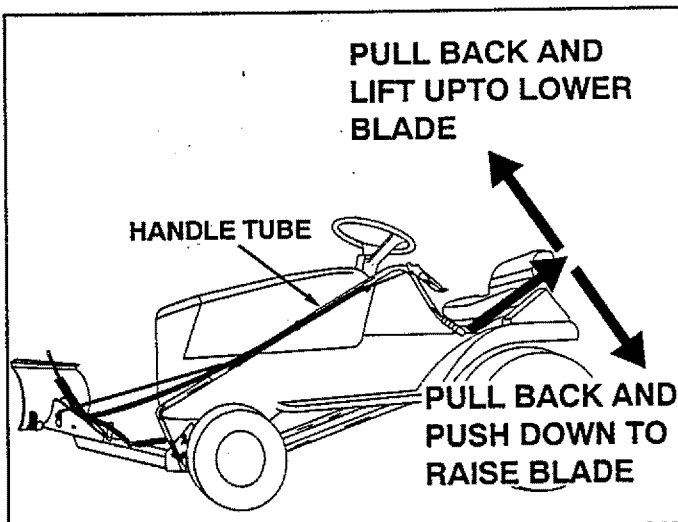

FIGURE 30
- Raise the blade to the transport position by pulling back and down on the lift handle tube. See figure 30. (This will require extra effort since the extension spring is not yet attached.)
Located on the left hand side of the tractor. To raise blade, pull back and down on handle tube. To lower blade, pull back and lift up on handle tube. See figure 30.